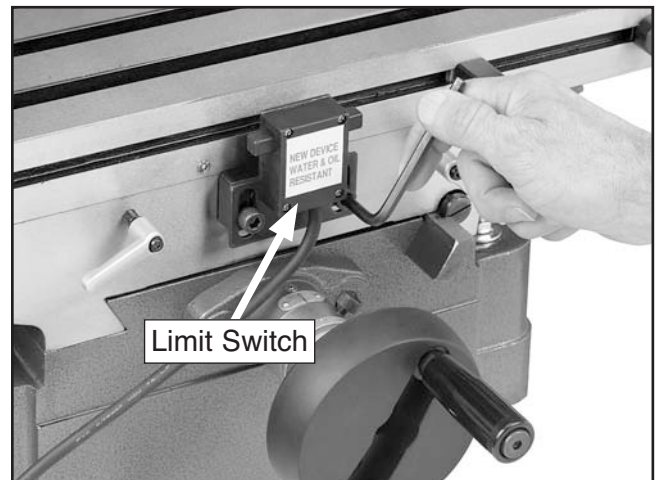

Figure 17. Limit switch.
10. Mount the limit switch to the limit switch bracket with the (2) M8-1.25 x 10 cap screws. Adjust the vertical position of the switch so that the power feed end stops will contact the buttons on either side of the switch. When these buttons are depressed, the power feed automatically turns **OFF** and table movement stops (**Figure 17**).